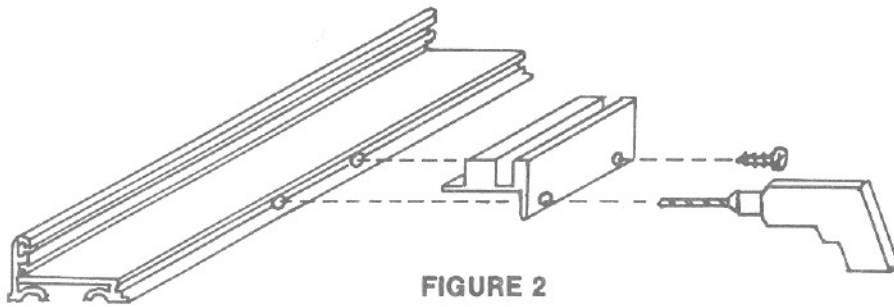

FIGURE 2
2. **BOTTOM TRACK ASSEMBLY:** Locate the center of the cut bottom track, position the track guide over the center of the track. With the guide in position, use mounting holes of the guide to mark your drilling location. Use the #32 drill bit supplied to drill through the inside leg of track. Fasten guide to the track with the short #6 x  $3/8''$  screws. SEE FIGURE 2